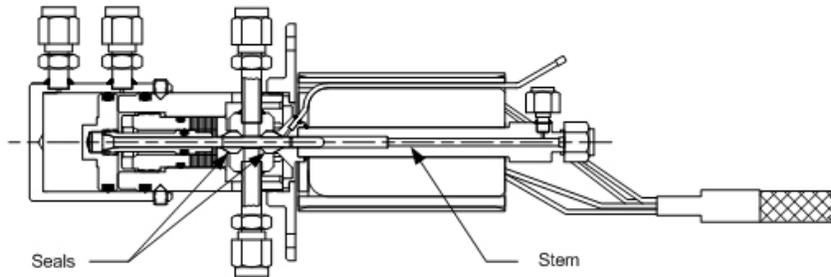

Fig. 8.9. Liquid Sample Valve
8.3.5 Liquid sample valve (see Figure 8.9)